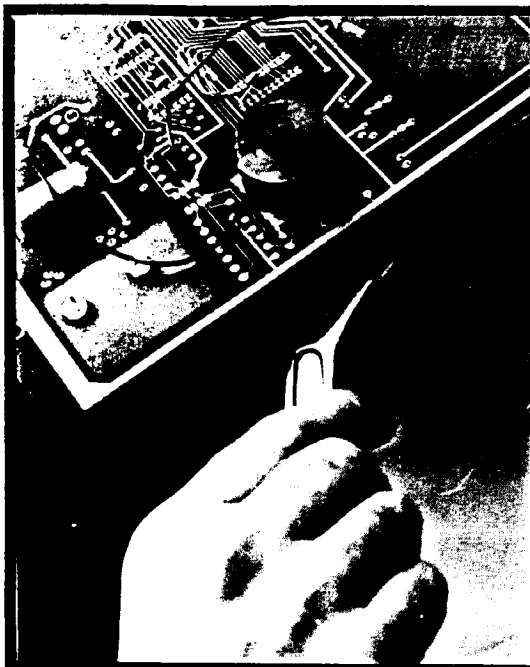

fig 1
- 5) Enlarge hole in main printed circuit board as shown in figures 1 and 2 using a 1¼" chassis punch. Center the new hole in the area where there are no traces. You will cut some close to the edge of the board, but these are not used.